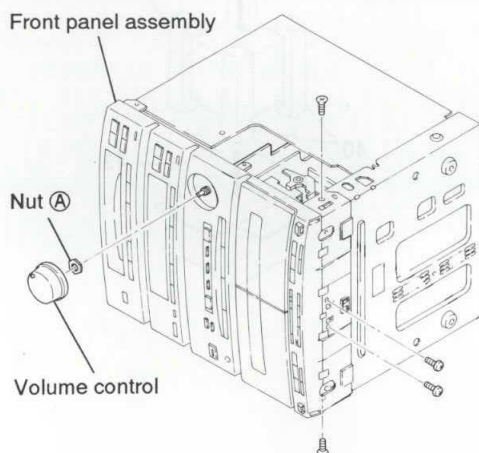
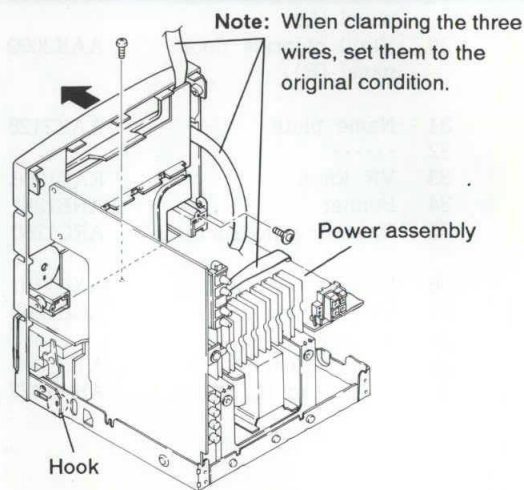

Fig. 2
Fig. 3
3. Remove the volume assembly by removing the volume control and nut (A). (See Fig. 2)
4. One fixing screw for head phone jack (C) (See Fig. 3.)
5. One fixing screw for power assembly (D)
6. Six fixing screws for the front panel assembly (See Fig. 2.)
7. Remove the front panel assembly by lifting the front panel assembly hook. (See Fig. 3.)